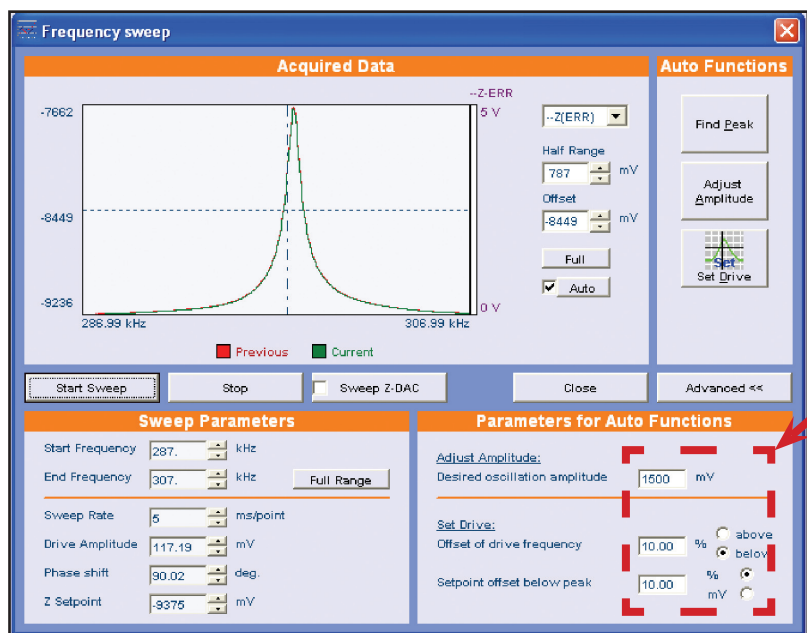

Figure 3.16: Frequency Sweep Window
- Make sure settings for autofunction are as shown in Figure 3.16 below.